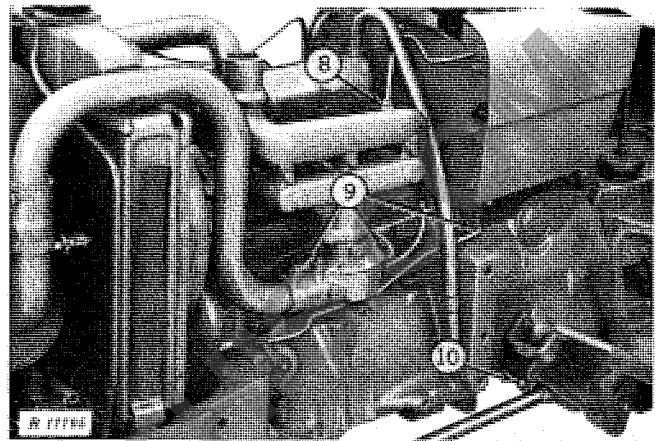

Fig. 2-Left-Hand Separation Procedures
8. Disconnect temperature gauge sensing bulb from engine (Fig. 2). Remove ether starting aid pipe (diesel).